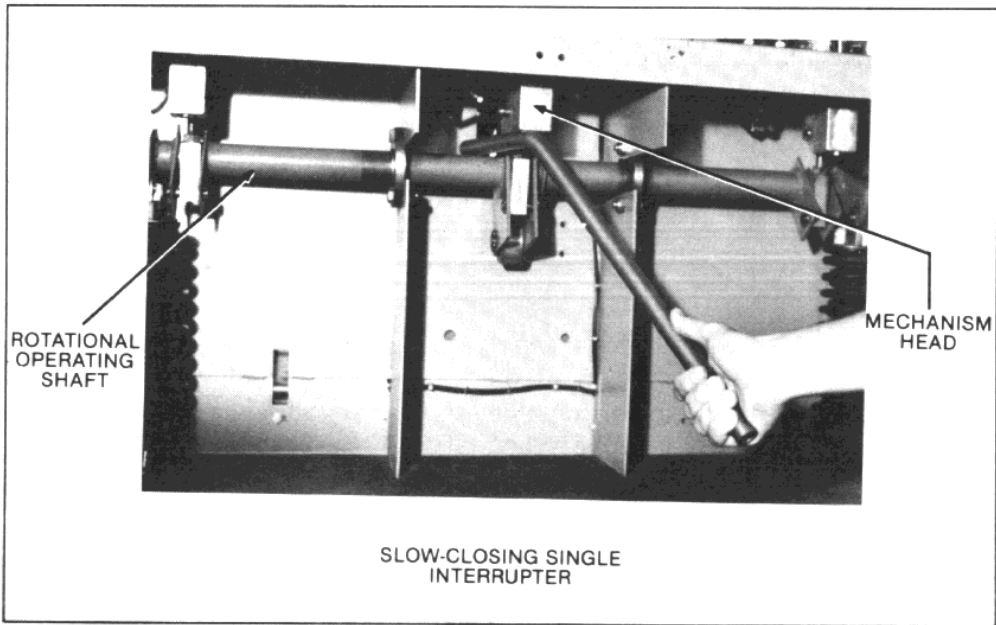

Figure 9
- Position the manual charging lever so that it rests on the rotational operating shaft and under the operating mechanism head of the bottle being evaluated (Figure 9).
5. Using the manual operating handle as shown in Figure 9, operate the mechanism head upward until